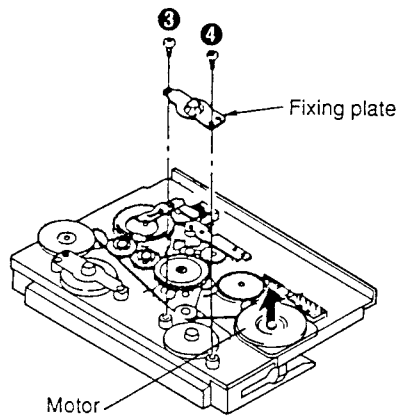

Fig. 2
3. Remove the 2 screws (❸, ❹) and the fixing plate. (Refer to Fig. 2.)
4. Remove the motor in the direction of arrow. (Refer to Fig. 2.)